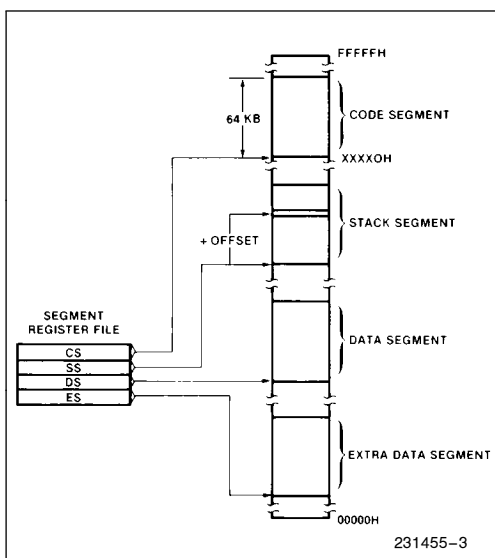

Figure 3a. Memory Organization
bytes, addressed as 00000(H) to FFFFF(H). The memory is logically divided into code, data, extra data, and stack segments of up to 64K bytes each, with each segment falling on 16-byte boundaries. (See Figure 3a.)